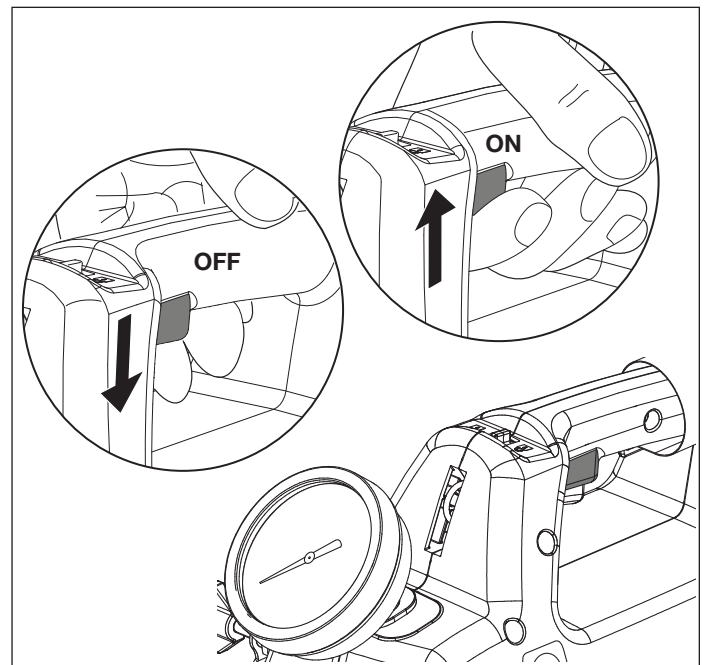

Figure 9, Trigger Switch
3. Start the pump motor and allow pressure to build by firmly grasping the carrying handle and pulling the trigger switch upward. Refer to Figure 9.
9. Pull the trigger switch upward to start the pump motor. Continue running the motor until oil stops flowing from the open-ended hose. Then, release the trigger switch. See Figure 9.